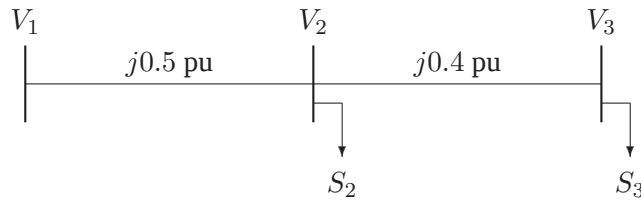

FIGURE 32
3.16. The one-line diagram of a three-phase power system is as shown in Figure 32. Impedances are marked in per unit on a 100-MVA, 400-kV base. The load at bus 2 is $S_2 = 15.93 \text{ MW} - j33.4 \text{ Mvar}$, and at bus 3 is $S_3 = 77 \text{ MW} + j14 \text{ Mvar}$. It is required to hold the voltage at bus 3 at $400\angle0^\circ \text{ kV}$. Working in per unit, determine the voltage at buses 2 and 1.